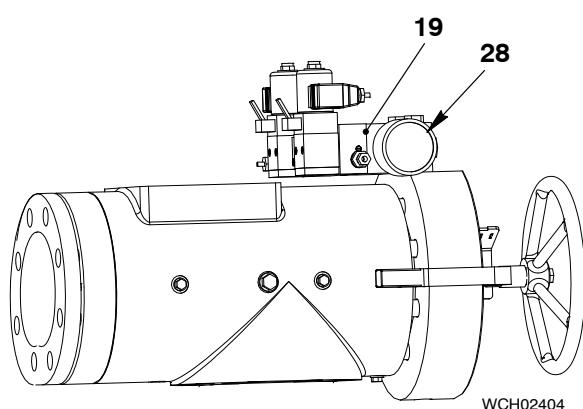

Fig. 4
- 21) Attach the silencer (28) to the control valve (19, Fig. 4).